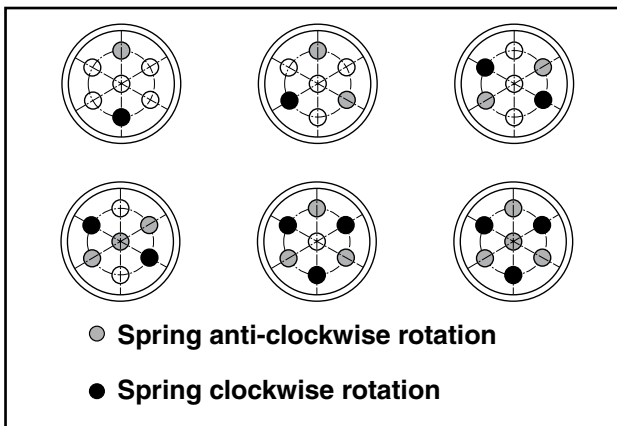

Fig. 9 Arrangement of springs on spring reset actuators
- slacken the screws (18) crosswise and in pairs uniformly and in small steps in order to relieve the springs slowly, then change the spring assembly as shown in Fig. 9 and retighten the cover (2) in reverse order.